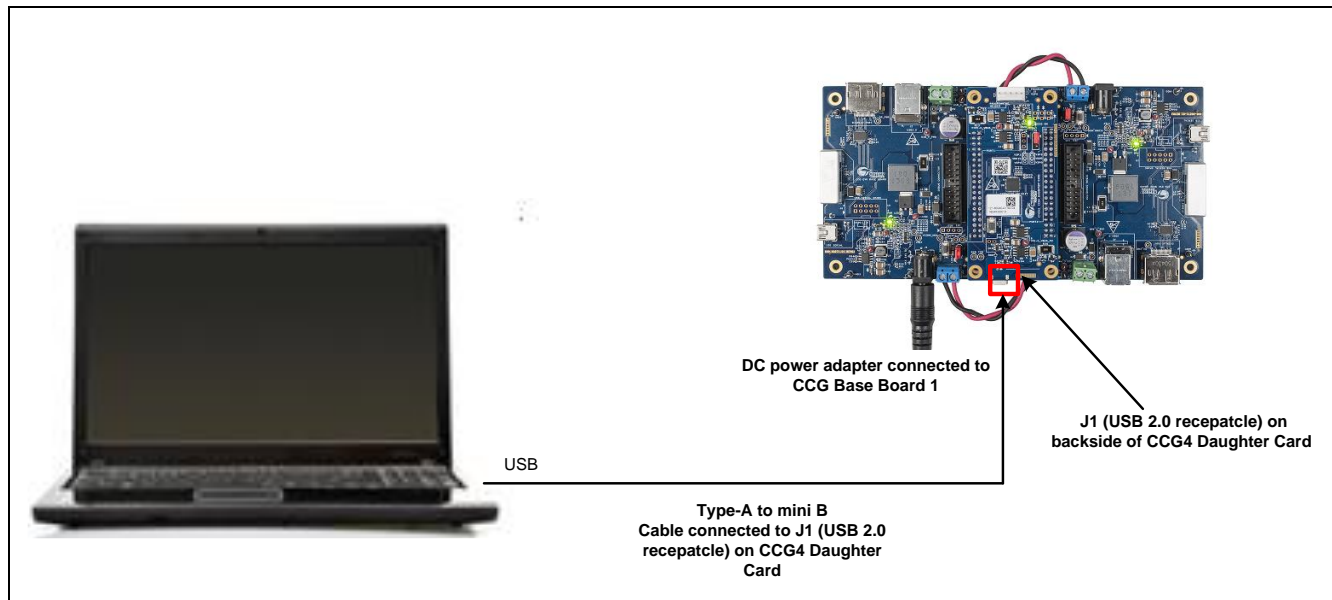

Figure 25 Updating the Configurable Table of CCG4 device
3. Connect the boards and cables (USB 2.0 USB 2.0 Type-A to Mini-B cable, DC power adapter, and wires between the power input header (J12) on CCG EVK base board 1 and CCG EVK base board 2) as shown in Figure 25. Connect the DC power adapter to CCG EVK base board 1.